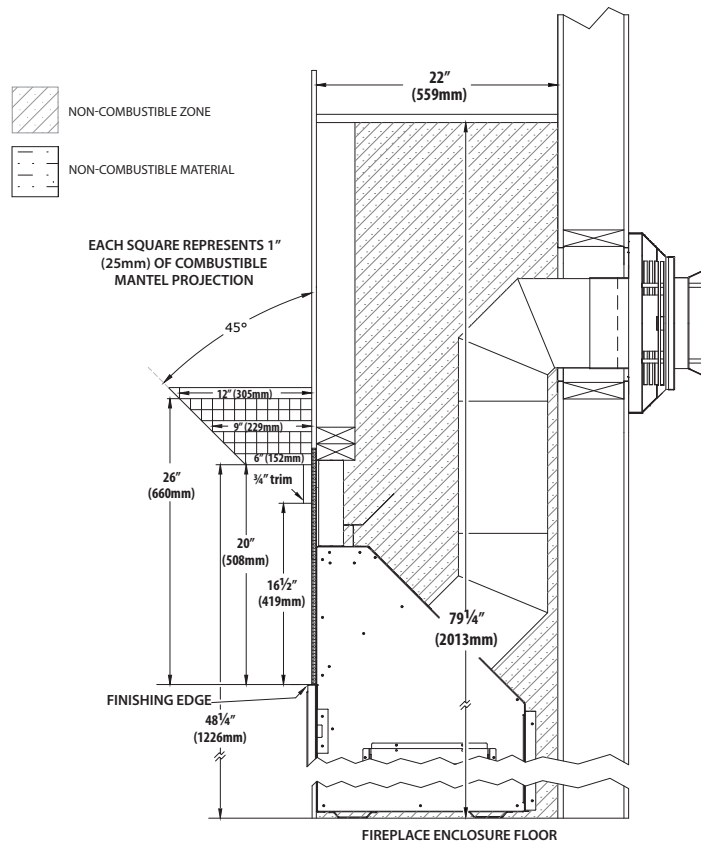

Figure 4.1, Combustible Mantel Clearances
- **Combustible Mantel Projections** - As referenced in Figure 4.1, the 3/4" trim can start at 16-1/2" (419mm) above the finishing edge with a 6" (152mm) mantel starting at 20" (508mm) above the finishing edge. Mantel projections can increase 1" (25mm) of depth for every 1" (25mm) of height starting at the 6" (152mm) mantel.